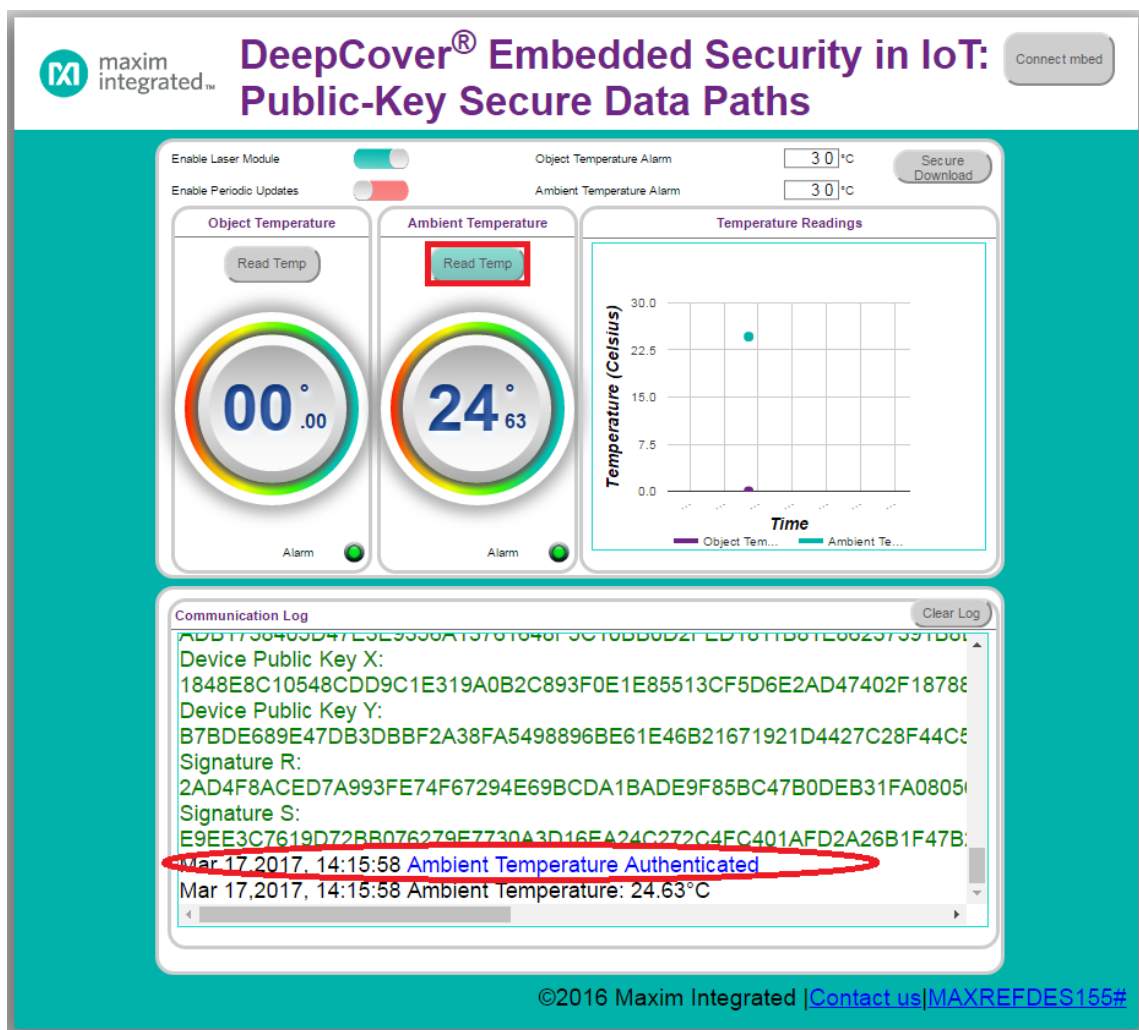

Figure 16. An authenticated temperature reading.
Note: Toggling the **Use invalid sig.** instructs the mbed to make the generated temperature measurement signatures unauthenticated when using the web client per **Figure 16** and **17**.
2. Click on the **Read Temp** button (**Figure 16**) and verify a temperature was read and is authentic.